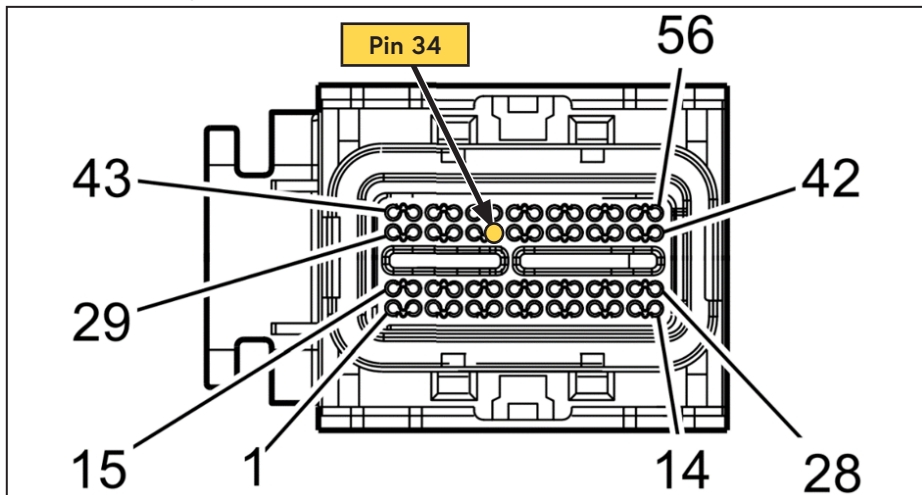

Figure 5 — ECM connector X1 (connector "face" view)
- Locate the orange wire with black stripe going to pin 34 in the ECM X1 connector (Figure 5).